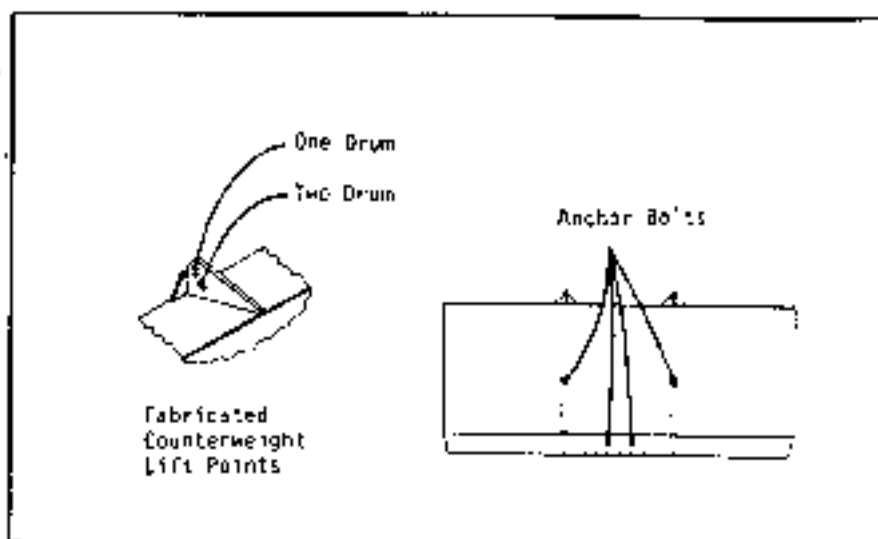

Fig. 1-33
- Slowly retract the counterweight until the lift brackets on the counterweight are directly below the lift bars. (Refer to Fig. 1-33 for correct lift points for the fabricated counterweight.) Pin the lift bars to the lift brackets on the counterweight and secure with safety clips.
- (e) Remove the counterweight anchor nuts and bolts, and store in the tool box. Refer to Fig. 1-33.
- (d) Pin the lift bars to the counterweight and secure with safety clips. (Refer to Fig. 1-33 for correct lift points for the fabricated counterweight.)